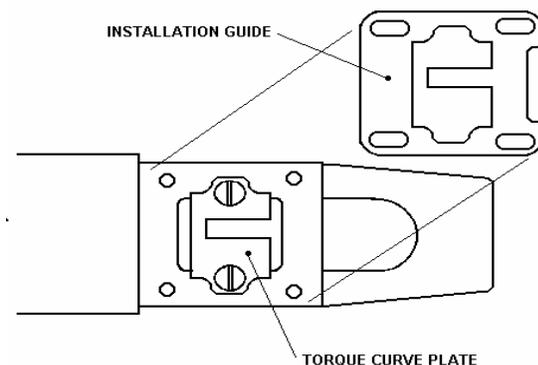

FIGURE 5
17. Place the installation guide provided with the Power Kit over the torque curve plate as shown in FIGURES 5 and 6. This guide plate prevents objects from entering the open fuel pump and it helps position the new torque curve plate. **NOTE:** The installation guide only fits one way, if it appears not to fit, flip it over and try again.